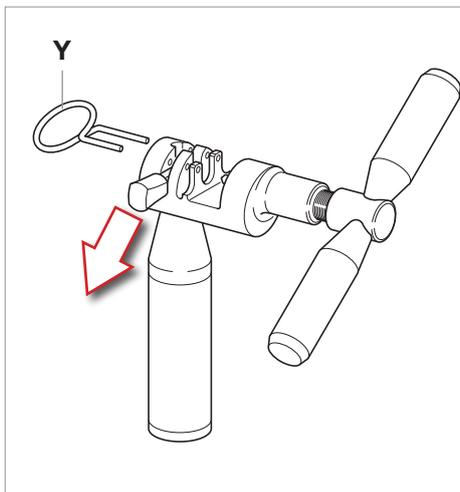

Fig.15
- Prepare the tool UT-CN400 by positioning the tongue in closure mode (Y - **Fig. 15**).